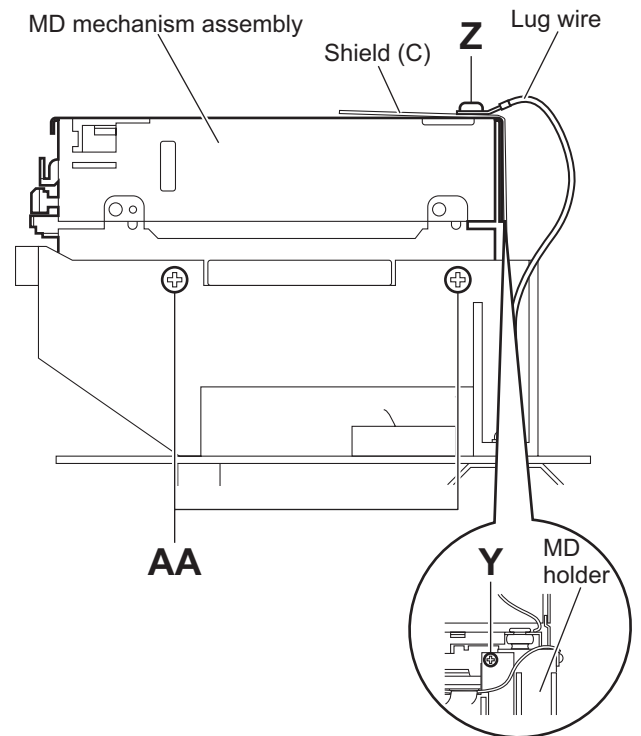

Fig.19
- Remove the screw **Y** attaching the MD mechanism assembly. (See Fig.19.)
- From the right side of the main body, remove the screw **Z** attaching the MD mechanism assembly. (See Fig.19.)
When attaching the screw **Z**, attach it with the lug and shield (C). (See Fig.19.)
- From the both sides of the main body, remove the three screws **AA** and screw **AA'** attaching the MD mechanism assembly. (See Figs.19 and 20.)